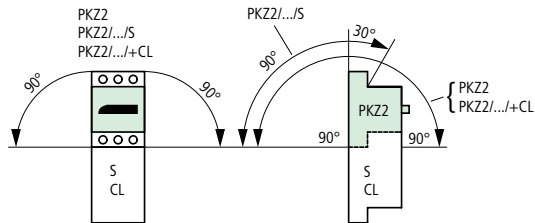

Figure 8: Permissible mounting position of the motor circuit-breakers PKZ2/ZM(R)...
► Always mount the motor-protection circuit-breaker as shown in Fig. 8.